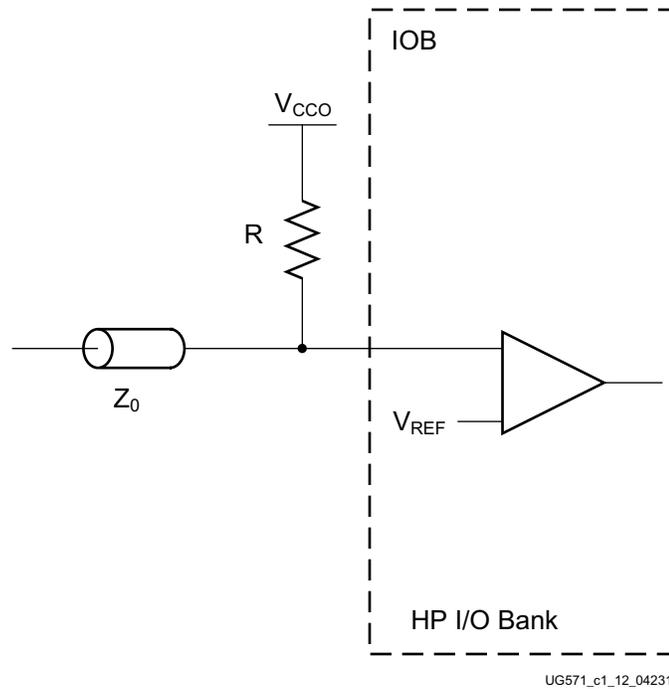

Figure 1-12: Input termination to V_{CC0} without DCI (where $R = Z_0$)
Some I/O standards (POD10, POD12, HSUL_12, and DIFF_HSUL_12) require an input termination resistance (R) to a V_{TT} voltage of V_{CC0} (see Figure 1-12).